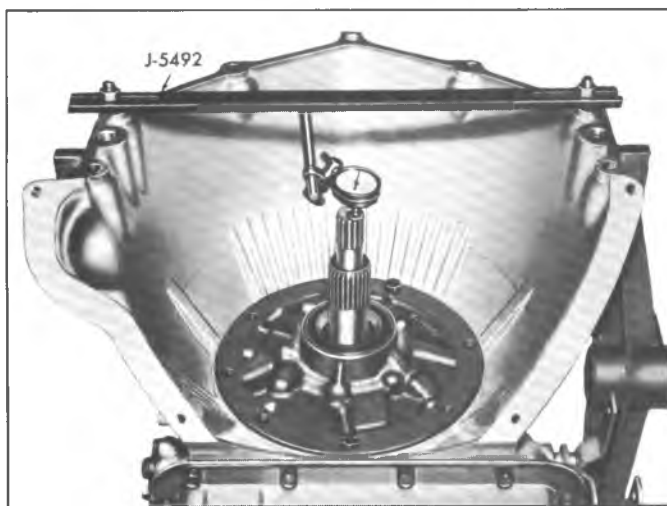

Fig. 32PG--Checking End Play for Proper Thrust Washer Selection
- a. Mount a dial indicator so that plunger of indicator is resting on end of the input shaft. J-5492 may be used to support the dial indicator as shown in Figure 32PG. Zero the indicator.